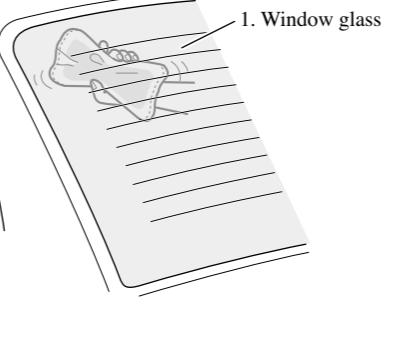

Fig. 9
**3. Mounting on the booster amp section (Fig. 9)**